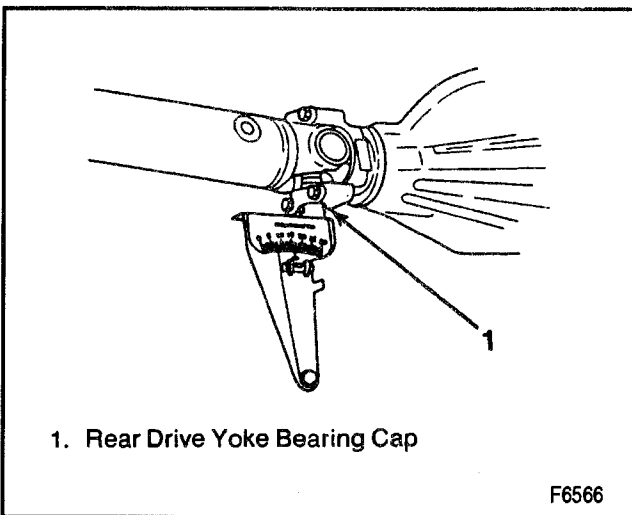

Figure 25—Measuring Rear U-Joint Working Angle
2. Rotate the propeller shaft 90 degrees and place the inclinometer on the rear drive yoke bearing cap (Figure 25). Center the bubble in the sight glass and record the measurement.